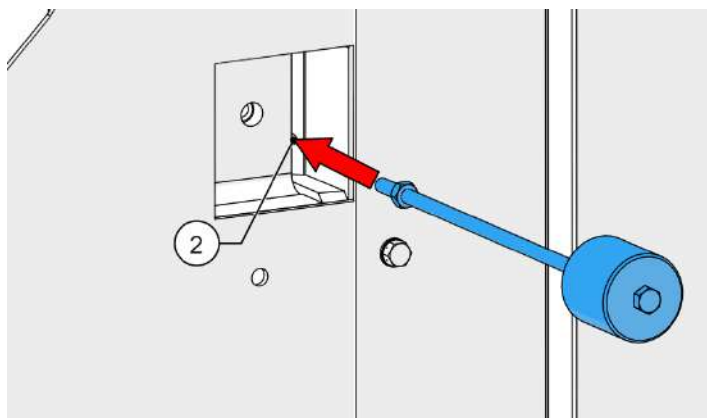

Figure 69 - Slide hammer
8. Insert a suitable slide hammer into the M8 hole (2, Figure 69).